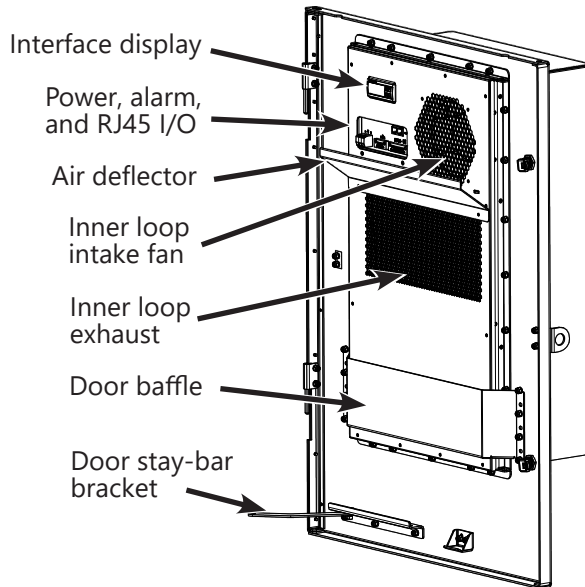

Figure 6. CommScope Telco AIO Door Examples with HVAC Units D3 per Table A
- With HVAC - Figure 6
Door with Air Conditioner: DC Power (D1-D7) (Figure 6)